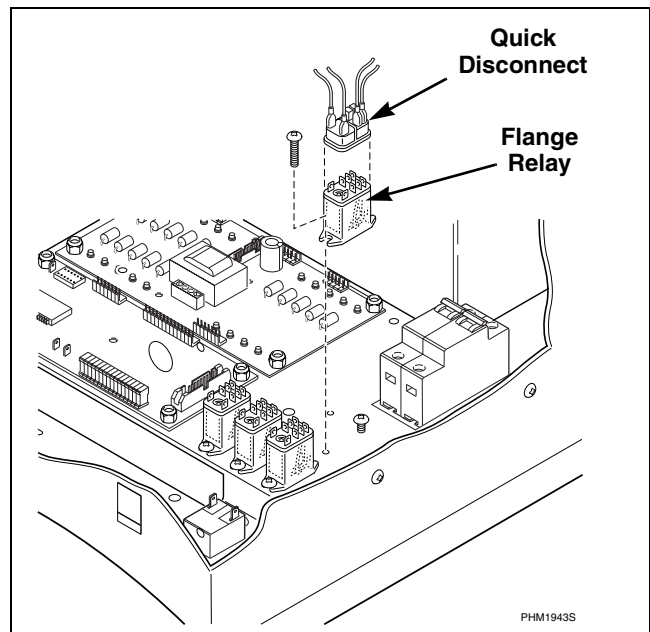

Figure 24
- c. Remove the quick disconnect from the top of the flange relay. Refer to *Figure 24*. All wires remain in the same spot.
- d. Remove one of the screws that attaches the flange relay to the control module. Refer to *Figure 24*.
- f. Remove the flange relay. Refer to *Figure 24*.